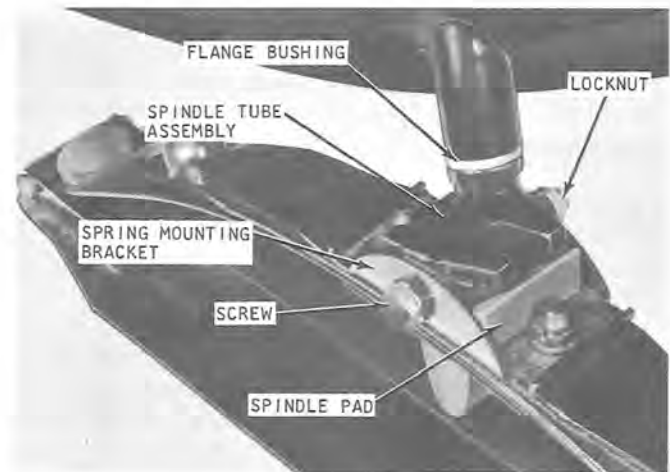

Figure 1
- Remove the locknut and screw at the spring mounting bracket (figure 1).
- Install the ski assembly by securing the spring mounting bracket and spindle pad to lower end of spindle tube assembly as shown in figure 1. Apply 30 foot-pounds torque to the locknut. Do not over-tighten bolt as the ski assembly should float freely on the spindle.